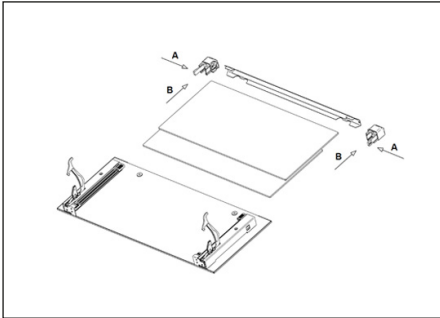

Fig.1
- There are two buttons on the left and right sides of the door, located on the side profiles. Fig.1-A
- At this point it is possible to extract the interior glasses with care. Fig. 1-B